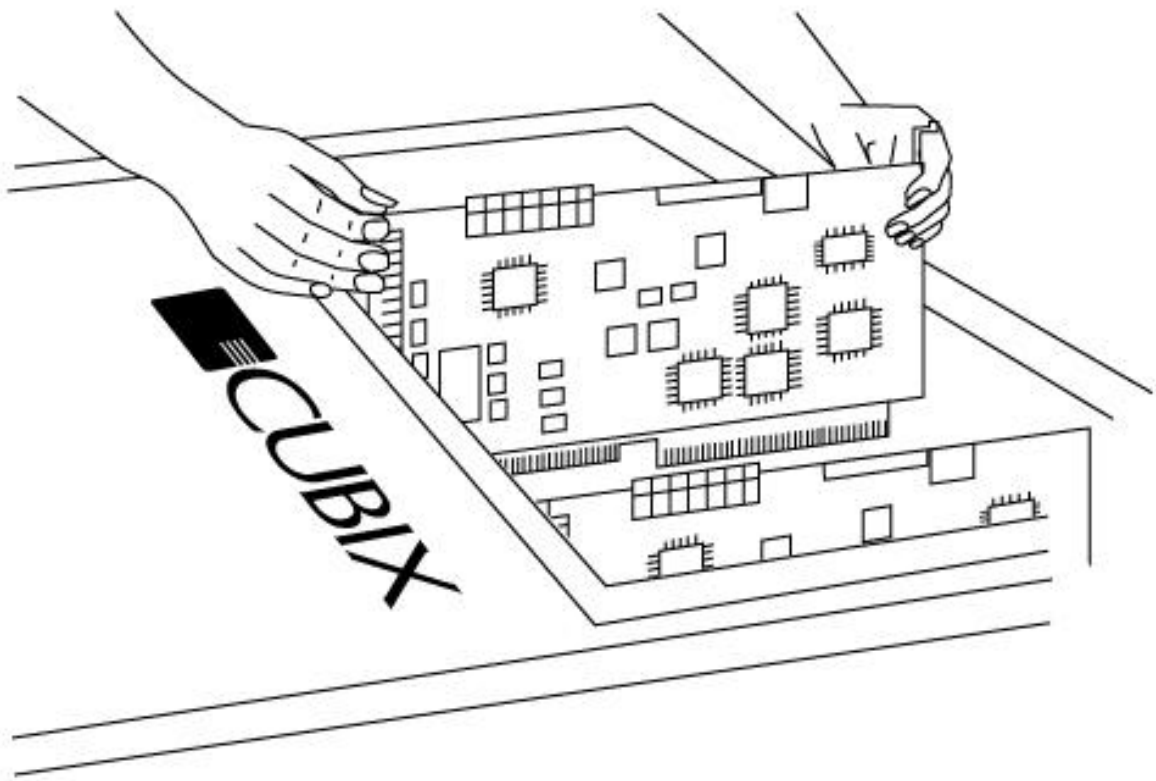

Figure 4 Inserting Server Board into Chasis Group
4. Insert the board into the group slot, ensuring the card interface tabs are aligned with the center of the slot (see Figure 4).